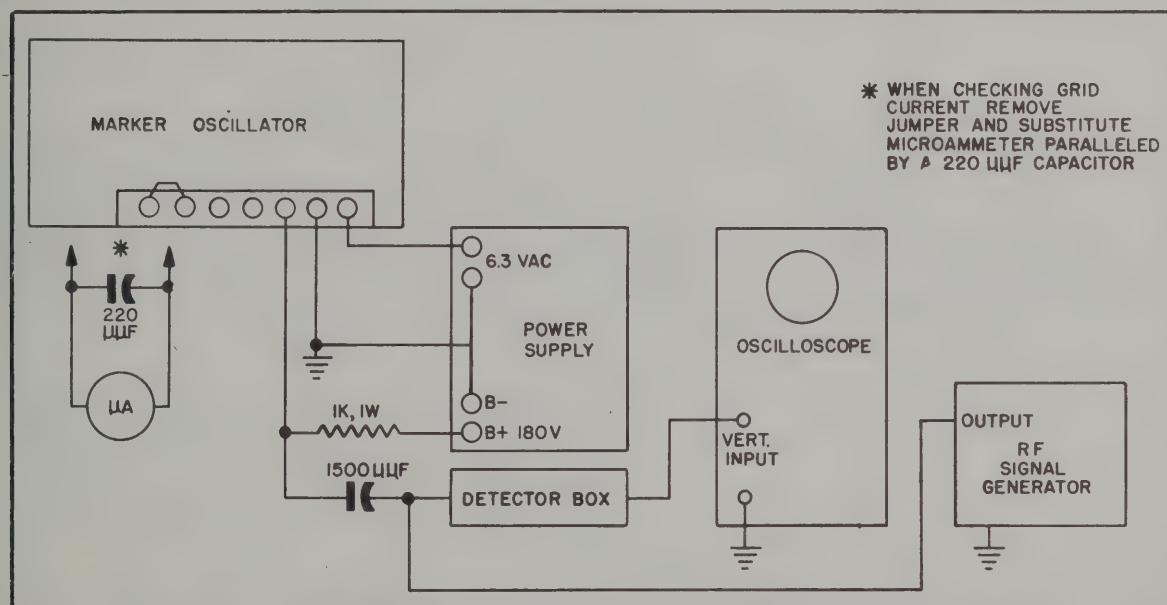

Figure 8-3. Marker-Oscillator-Assembly Test, Equipment Connection Diagram
b. Connect Oscilloscope TS-239/UP, or equivalent, and RF Signal Generator AN/URM-26, or equivalent, to reassembled marker-oscillator assembly, as shown in figure 8-3.
c. Connect 6.3 volts, ac, from external power supply to terminals of marker-oscillator assembly, as indicated in figure 8-3.
d. Connect +180 volts, dc, from external power supply, through a 1000-ohm, 1-watt resistor, to terminal of marker-oscillator assembly, as shown in figure 8-3. The negative terminal of the power supply should be grounded.
bands, measure the grid current by removing the jumper indicated in figure 8-3 and substituting a microammeter paralleled by a 220- $\mu$ f capacitor. The grid current on all bands, and throughout each band, must not be less than 60 microamperes.